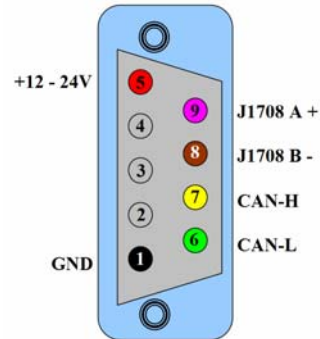

Figure 2 BUS Side DB9 male connector
- The "BUS" connector provides power supply, J1939 and J1708 connection to the device. The pin out is illustrated in figure 2.